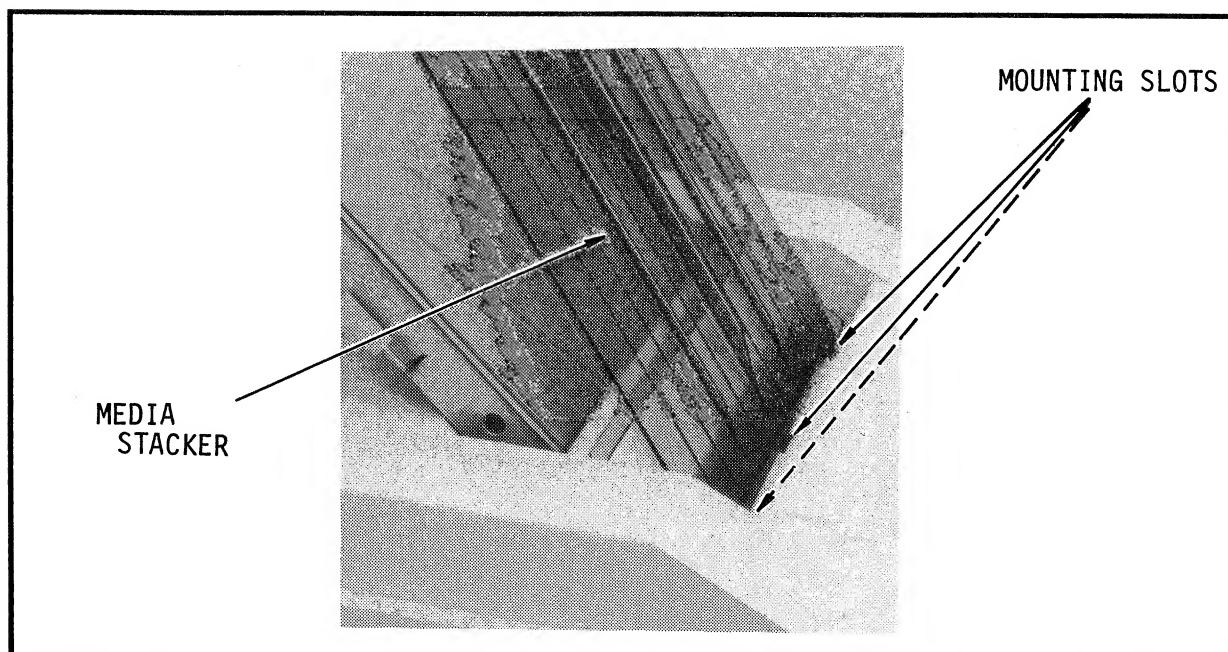

Figure 3-10. Media Stacker
7. Check that the media stacker is mounted in place. Refer to Figure 3-10.